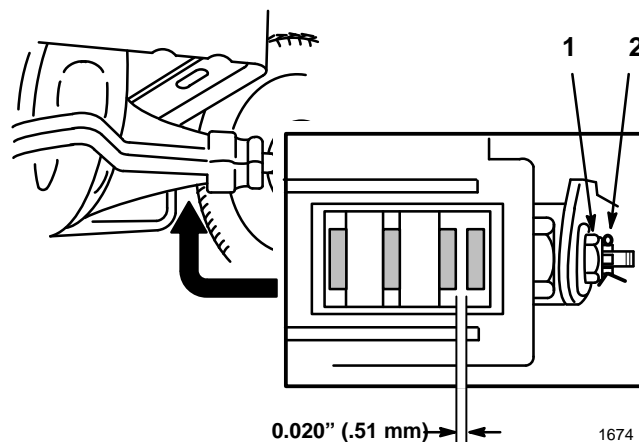

Figure 15
The brake is on the right side of the rear axle, inside the rear tire (Fig. 15). If the parking brake does not hold securely, an adjustment is required.
3. To adjust the brake remove the cotter pin and loosen the brake adjusting nut slightly (Fig. 15).
4. Carefully insert a 0.020” (.51 mm) feeler gauge between the two outer brake pads (Fig. 15).